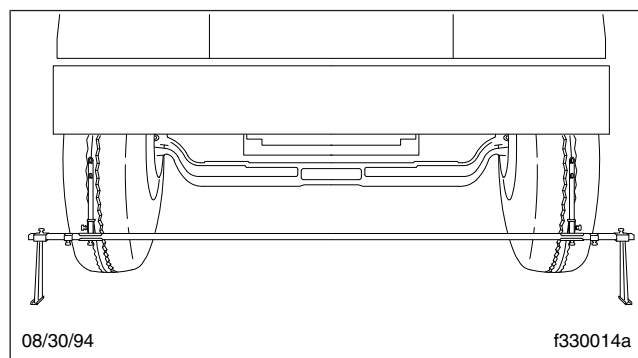
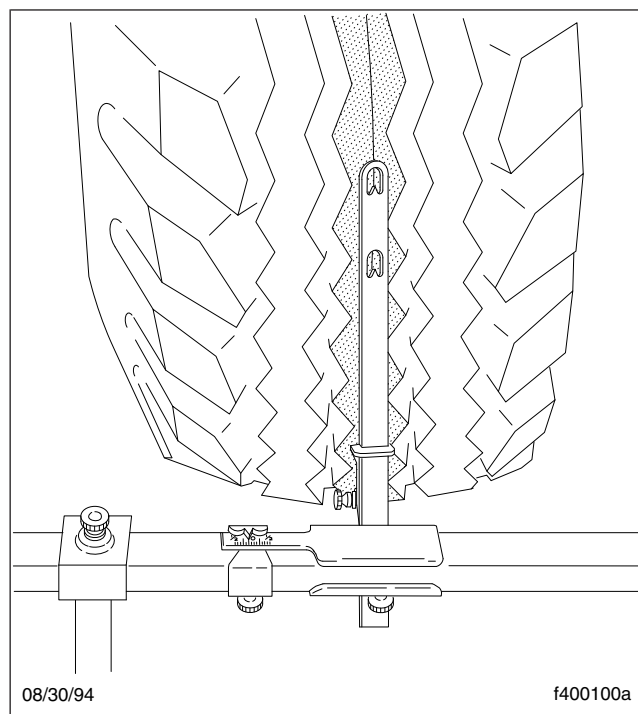

Fig. 13, Trammel Bar Positioning
Fig. 14, Setting Trammel Bar Pointers
7. Place the trammel bar at the **front** of the tires, see Fig. 13, and adjust the scale end so that the pointers line up with the scribe lines. See Fig. 14.